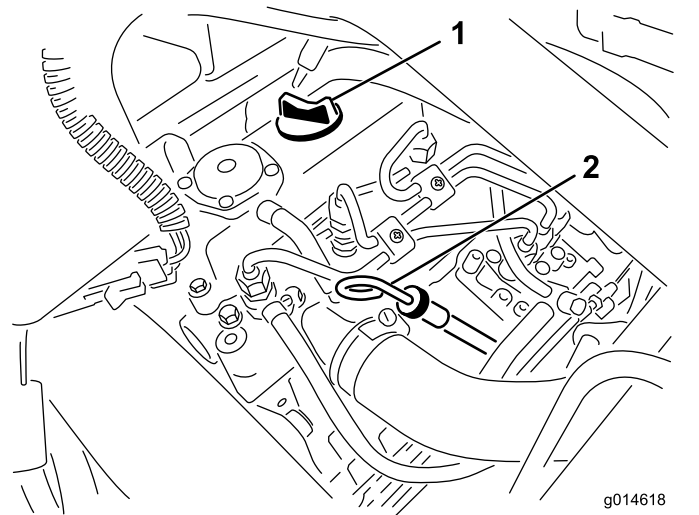

Figure 21
2. Remove the dipstick and wipe it with a clean rag (Figure 21).